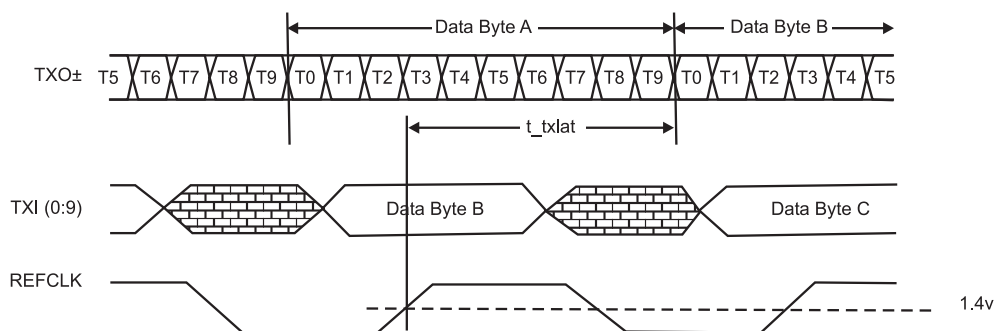

Figure 3: Transmitter Latency
Note 1. The transmitter latency, as shown in Figure 3, is defined as the time between the latching in of the parallel data word (as triggered by the rising edge of the transmit byte clock, REFCLK) and the transmission of the first serial bit, TXI (0), of that parallel word (defined by the rising edge of the first bit transmitted).